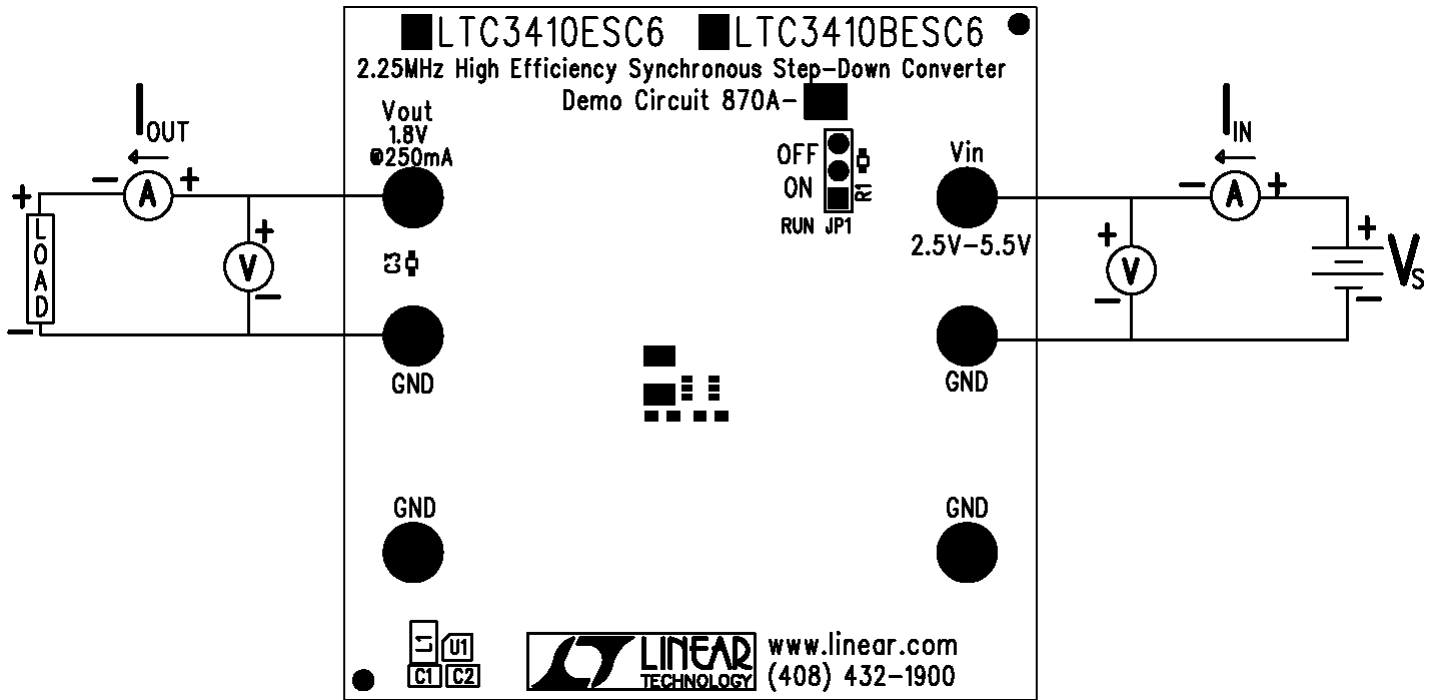

Figure 1. Proper Measurement Equipment Setup
The DC870A-B is easy to set up to evaluate the performance of the LTC3410B. For proper measurement equipment configuration, set up the circuit according to the diagram in **Figure 1**. Before proceeding to test, insert jumper JP1 shunt into the off position, connecting the RUN pin to ground (GND), which shuts down the circuit.
1. Connect the input power supply and the load to the board. Do not hot-plug  $V_{in}$  or increase  $V_{in}$  over the rated maximum supply voltage of 5.5V, or the part may be damaged. Refer to figure 1 for the proper measurement equipment setup.